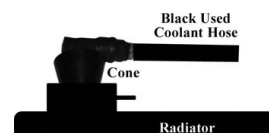

Figure 3
- 8) Insert cone tip into radiator neck or coolant reservoir tank opening (*see note below*) and open BLACK/USED coolant flow control valve. The vacuum will securely seat and seal the cone into the opening and used coolant will begin to be extracted from the cooling system. (Fig 3)